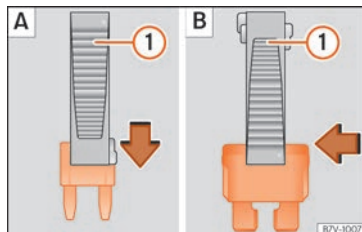

Fig. 61 Removing or fitting a fuse
- *Small fuses:* fit the pincer in from above »» Fig. 61 A.
- *Large fuses:* move the pincer sideways over the fuse »» Fig. 61 B.